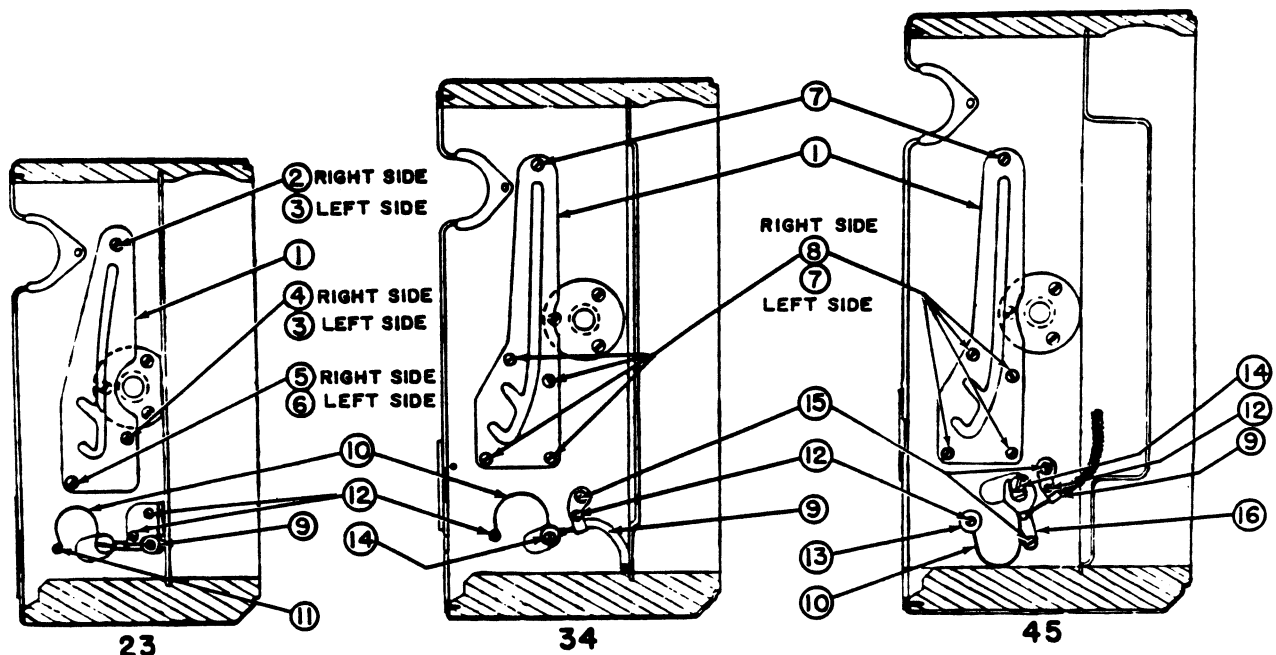

Figure 11. Right Bed Brace Plate and Cable Release Mounting
c. On "23" cameras attach the left bed brace plate (1, figure 11) with one wood screw (3) at the top, screw (3) at the side and screw (6) at the bottom. Attach the right bed brace plate with one wood screw (2) at the top and one wood screw (4) at the side and screw (5) at the bottom.
d. On "34" cameras attach the left bed brace plate (1) with five wood screws (7). Attach the right bed brace plate with one wood screw (7) at the top and four wood screws (8) at the bottom.
e. On "45" cameras attach the left bed brace plate (1) with five wood screws (7). Attach the right bed brace plate with one wood screw (7) at the top and four wood screws (8) at the bottom.